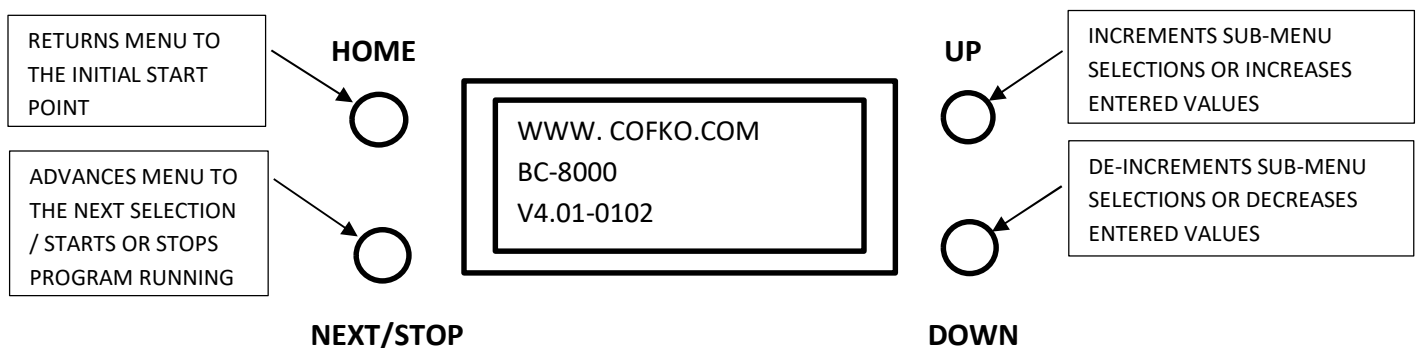

Fig.1
4. The BC-8000 LCD display will flash a message that contains the COFKO web site URL, machine model, and the firmware version. The final message is the MODE? and located below is the current mode selected. See Figure 1.